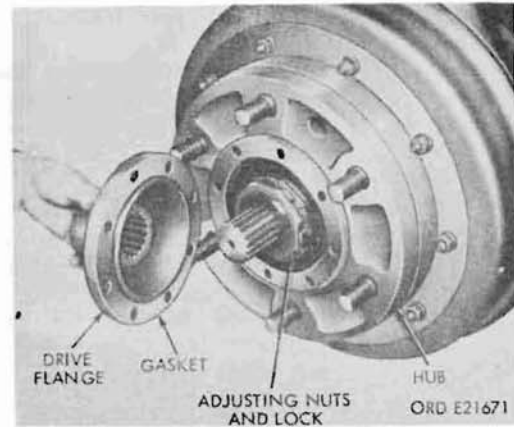
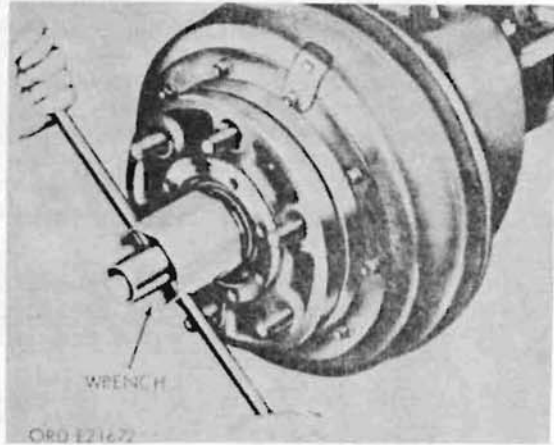
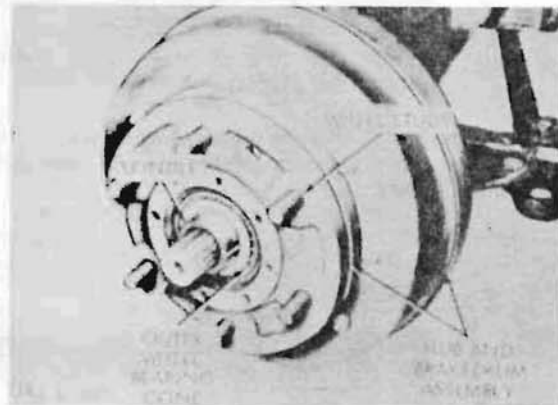

Figure 227. Wheel hub
Figure 228. Wheel bearing adjustment using wrench 5120-974-2243
Figure 229. Hub, bearings and cone
- (1) Remove the hub and the drum assembly (fig. 227). Remove the wheel (par.
203). Remove the front axle shaft drive flange (par. 169) or the rear axle shaft (par. 173). Straighten the bent-over portions of the adjusting nut lock. Remove the outer wheel bearing adjusting nut with the wheel bearing nut wrench 5120-795-0059 (fig. 228). Remove the adjusting nut lock, then remove the inner wheel bearing adjusting nut (fig. 227) with the same wrench. Remove the outer bearing oil seal (rear axles only), the outer bearing cone, and the drum assembly (fig. 229).
- (a) For the single wheel hub removal, drive the wheel studs (fig. 229) out of the hub and drum adapter on the brakedrum, and remove the hub from adapter.
- (1) Install hub.
- (2) Install the hub and the drum assembly. Clean and lubricate the hub and bearings according to procedure in paragraph c below. Install the hub and the drum assembly (fig. 229) over inner bearing cone. Install the outer bearing cone, the outer bearing oil seal (rear axles only), and the inner wheel bearing adjusting nut. Install the wheel (par. 203). Adjust the bearing and install the adjusting nut lock and the outer wheel bearing adjusting nut as described in paragraph a(2) below. Install the front axle shaft drive flange (par. 269) or the rear axle shaft (par. 173).
- (1) Check adjustment. Jack up the wheel to be checked until the tire clears the ground. Grasp the tire at the top and pull back and forth, or use a bar under the tire. If bearings are correctly adjusted, the movement of the brakedrum in relation to the top edge of the brake flange plate will be just perceptible, with the wheel turning freely. If movement is excessive, adjustment is required as explained in (2) below.
- (2) Adjust wheel bearing. With the wheel jacked up, remove the front axle shaft drive flange (par. 169) or the rear axle shaft (par. 173). Straighten the bent over portions of adjusting nut lock. Remove the jam nut (outer) with the wheel bearing nut wrench 5120-974-2243 (fig. 228). Remove the nut lockwasher. While turning the
- (1) Remove bearing cones (fig. 229). Remove the hub and the drum assembly (par. 205a). Remove the inner bearing cone.